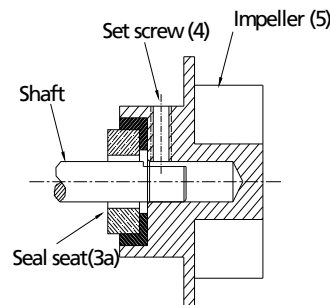

Figure 6
Has a mechanical seal, which consists of seal seat (Ref.No.3a) and seal head (Ref.No.3b), require replacement, proceed as follows and refer to Figures 6, 7 and 11.
9. Press the seal seat squarely into the cavity in the impeller (See Figure 6). If the seal seat does not press squarely into the cavity, it can be adjusted in place by pushing on it with a piece of pipe. Always use a piece of cardboard between the pipe and the seal seat to avoid scratching the face of the seal seat. This is a lapped surface and must be handled very carefully.